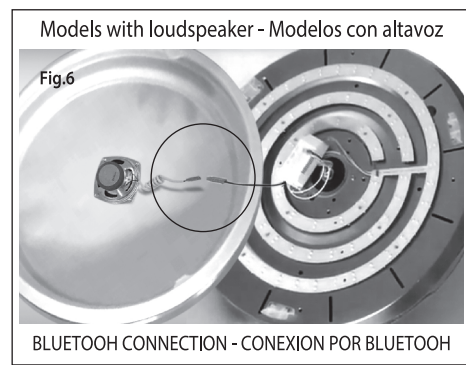

Fig.6
- 6) For models with SPEAKER, the cable is connected to the loudspeaker located in the diffuser (fig.6)